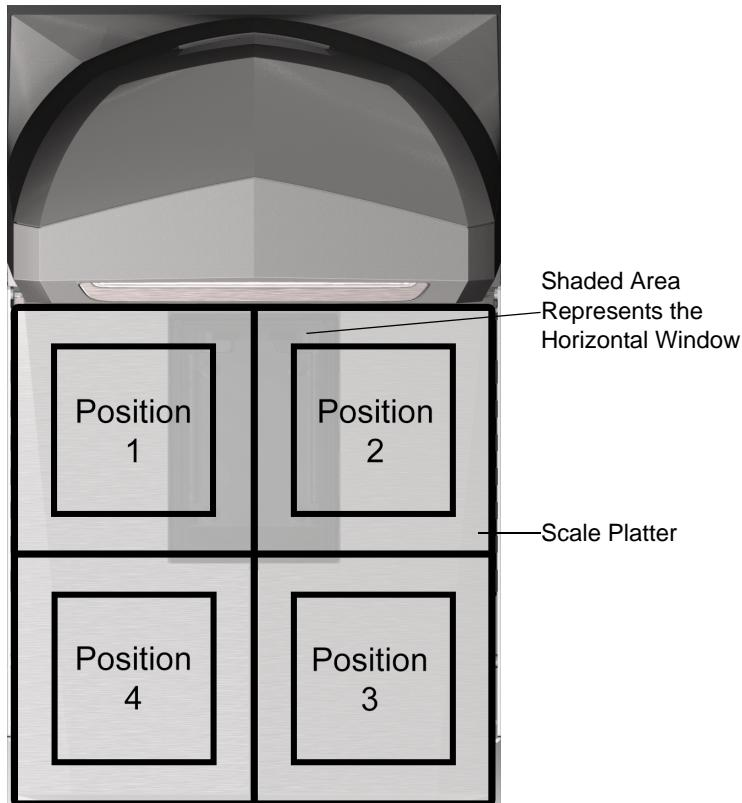

Figure 4-4 Weight Positions on the Scale Platter
Shift Test (see Figure 4-4)
The weight checked at each position on the scale, shown in Figure 4-4, represent halfway between the center of the platter and corner. Use a stack configuration of weights if needed (i.e., (2) 5.00 lb weights, or (2) 2.500 kg weights) depending on the units of measure programmed.